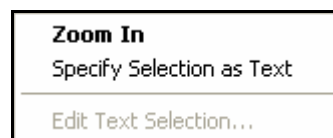
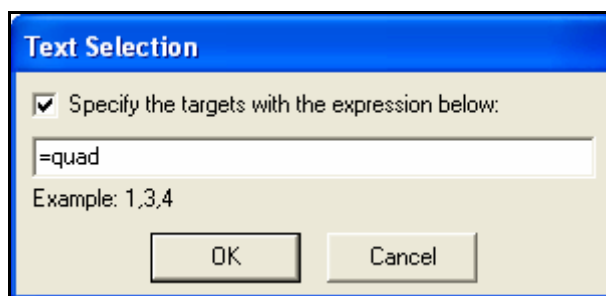

Figure 3-11. Menu to select Specify Selection as Text
Figure 3-12. Text Selection
2. In the **Dispense** step configuration, rather than specifying the wells to transfer to using the graphical representation of the 384-well plate, you will specify the destination wells using the variable quad. To do this, right-click on the graphical representation of the 384-well plate and choose **Specify Selection as Text** in the menu that appears (Figure 3-11). **Text Selection** is displayed (Figure 3-12).